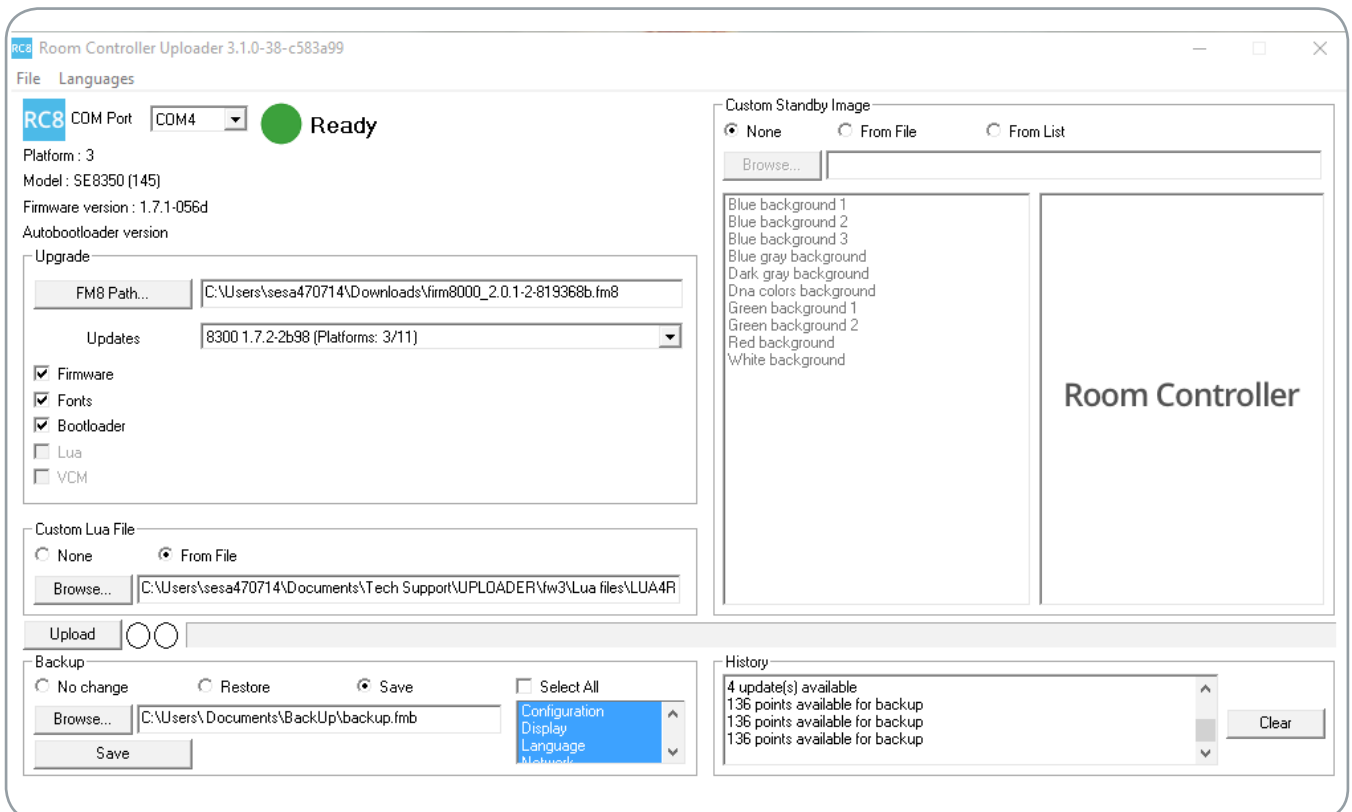

Figure 7. Upload files to the Room Controller
1. Click Upload to upload all files to the Room Controller (Figure 7).